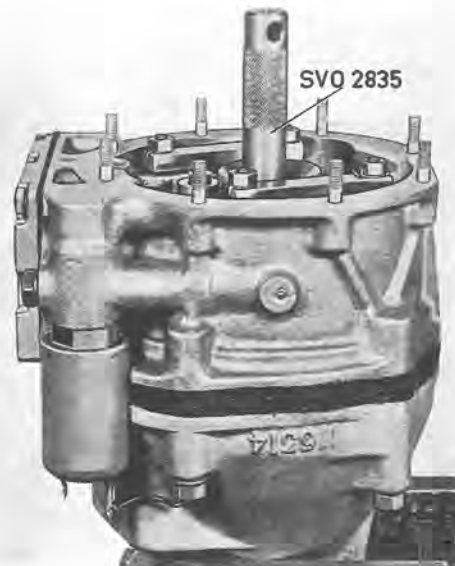

Fig. 4-57. Installing front casing
5. Install the brake ring on the front casing. Place the front casing on the rear one. Fit washers and nuts, see Fig. 4-57. Note that both the copper washers should be fitted on the upper bolts. Tighten the bolts a little at a time until they are tightened evenly all around.